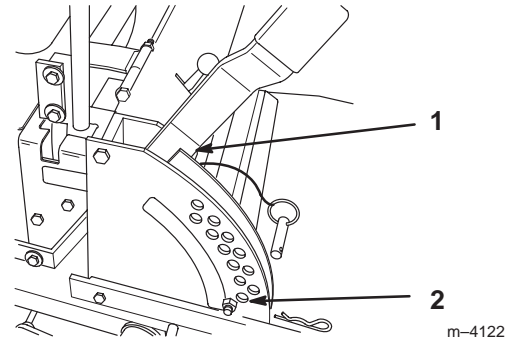
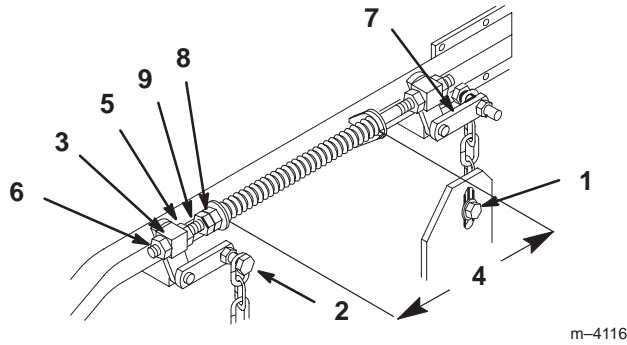

Figure 52
Figure 53
4. Raise the deck to the transport position (Fig. 52). Take force off of the two large deck lift springs by loosening the jam nut and front spring nut, in front of each spring, as far as possible (Fig. 53).
5. Place 2 thick blocks (1-1/4 inch [35 mm]) under the rear left and right lower edge of the mower. Place 1 block (1-3/8 inch [44 mm]) under the front center lower edge of the mower, not under the anti-scalp roller brackets. Lower the mower to the 1-1/2 inch (38 mm) height-of-cut position (Fig. 52).
6. Loosen the bottom chain bolt in the slot at the rear of the deck. Repeat for the opposite side (Fig. 53).
7. Loosen the front and rear locking nut on either side of the front swivel. Loosen until the front chains are loose and the deck is supported by blocks. Repeat for the opposite side. (Fig. 53).
8. When the hardware is loosened, the remaining tension in the large support springs will tend to rotate the deck lift handle up, out of the 1-1/2 inch (38 mm) position. Press down on the rear deck support arm to firmly return the deck lift handle to the 1-1/2 inch (38 mm) position (Fig. 53).
9. While continuing to press down on the rear deck support arm, take the slack out of the rear chain and tighten the hardware at the bottom (Fig. 53). Downward pressure may now be released. Repeat for the opposite side.
- Raise the deck lift lever to the transport position (Fig. 52).
- Adjust the compression springs by turning the front spring nuts so that the distance between the two large washers is 10-1/4 inch (260 mm); then tighten the jam nut (Fig. 53).